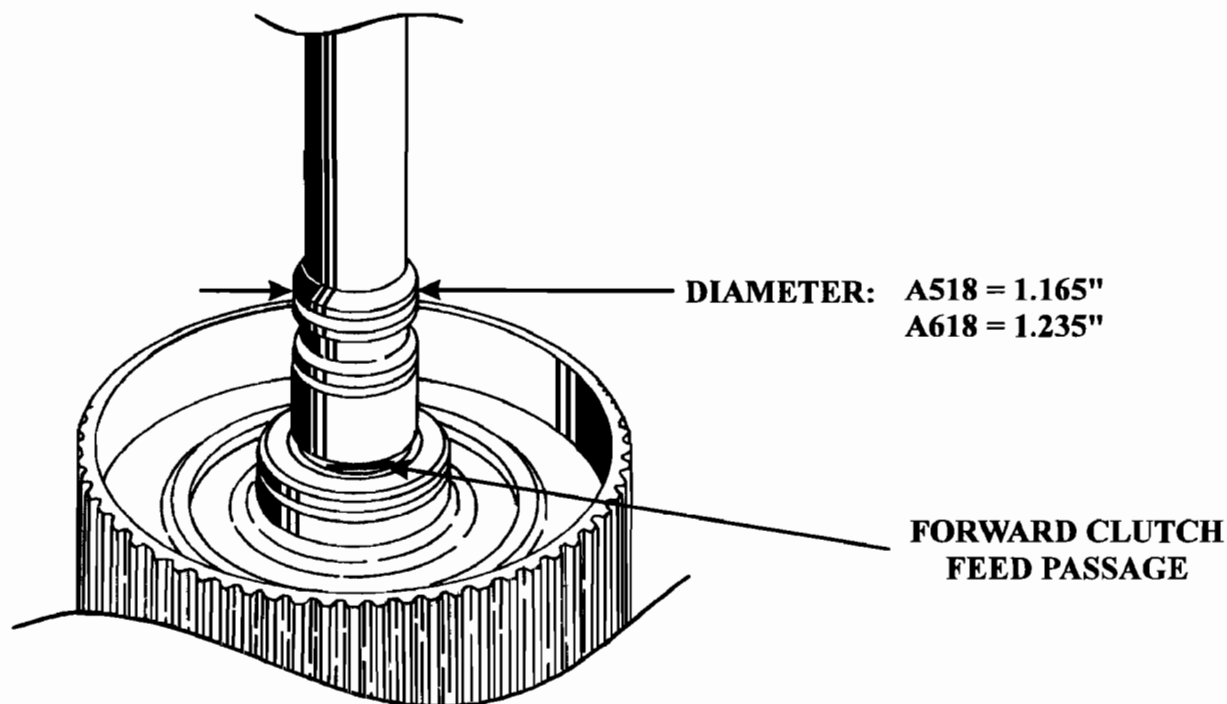

Figure 1
**CORRECTION:** Install the proper A518 stator into the unit. The biggest problem is identification of these two very similar parts. The diameter in the sealing ring area on the turbine shaft on the A518 is 1.165", and the A618 diameter in the same area is 1.235", as shown in Figure 1. Obviously the diameter on the inside of the stator where the sealing rings ride must correspond with these dimensions. When the larger diameter A618 stator is installed on the A518 turbine shaft, converter release oil goes past the sealing ring and applies the forward clutch, as long as the engine is running. Refer to Figures 1 and 2.